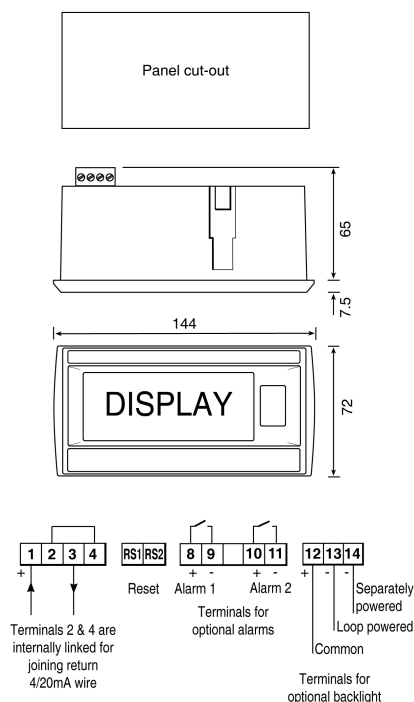

Fig 4 BA558E dimensions
Fig 4 shows the overall BA558E Rate Totaliser dimensions together with the recommended panel cut-out dimensions. To achieve an IP66 seal between the instrument enclosure and the instrument panel the smaller tolerance aperture must be used, and the Rate Totaliser must be secured with four panel mounting clamps.
- Cut the specified aperture in the panel. To achieve an IP66 seal between the instrument enclosure and the instrument panel the aperture must have the tighter tolerances specified in Fig 4.
- Connect the panel wiring to the rear terminal block(s) as shown in Figs 4. To simplify installation, the terminals are removable so that the panel wiring can be completed before the instrument is installed.